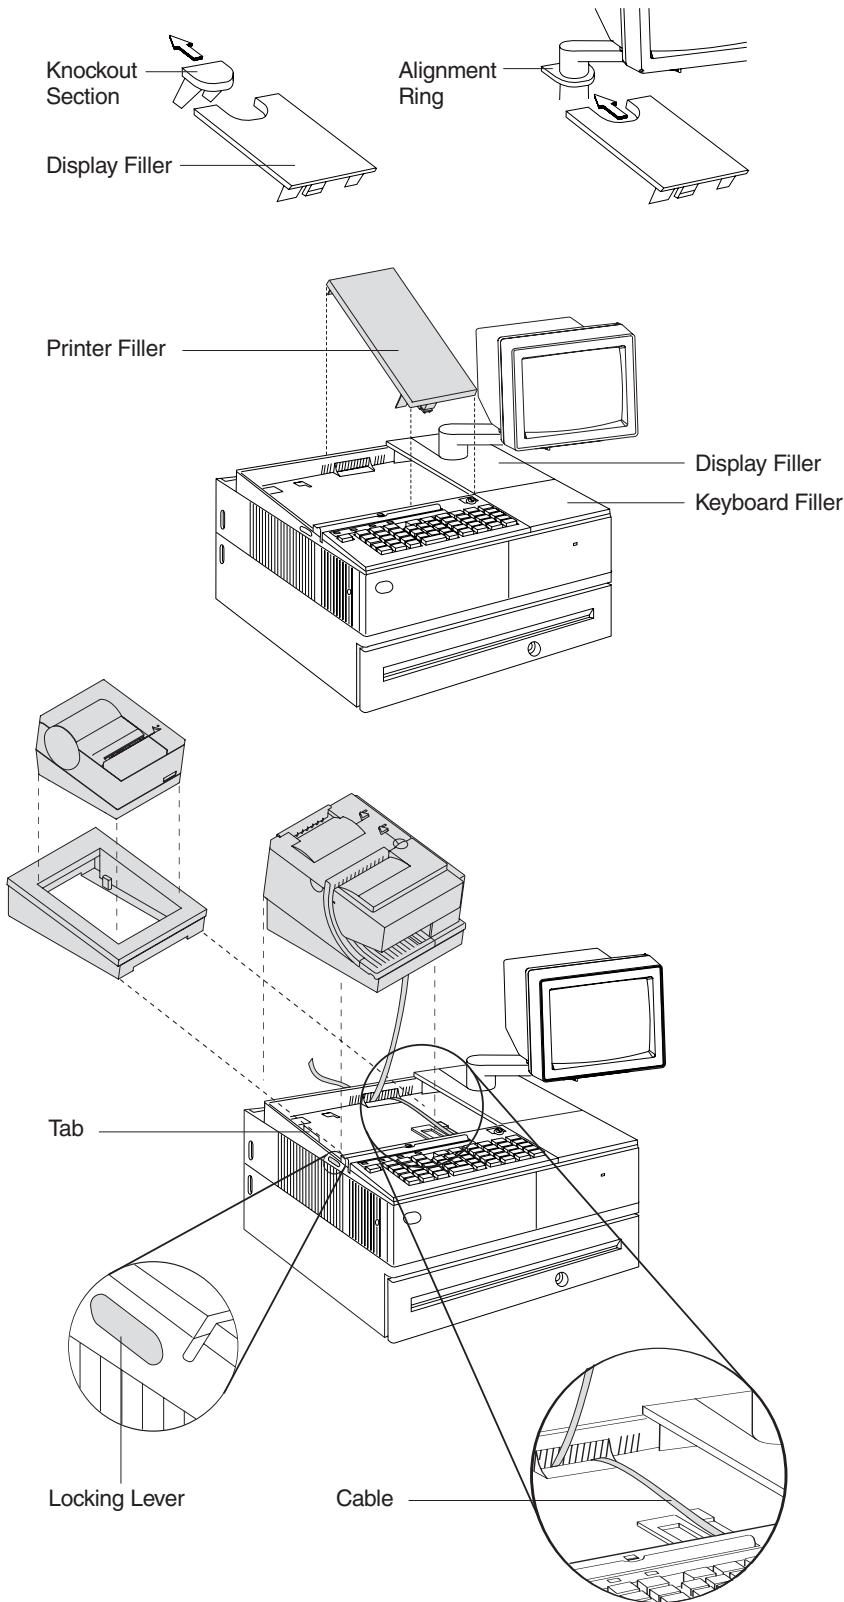

Figure 12. Installing the Fillers for RS-232/RS-485 Systems
- c. Route the keyboard cable to the side of the tab as shown in Figure 12 on page 20.
- c. Align the display filler with the alignment ring and slide the filler onto the ring. Press the display filler into place. See Figure 12 on page 20.
3. If you do not have a video display, place the display filler on the system unit. **Do not remove** the knockout section. See Figure 12 on page 20.
4. If you have a short keyboard, place the keyboard filler beside the keyboard. See Figure 12 on page 20.
5. Place the printer filler beside the display filler. **Make sure you route the printer cable to the side, as shown in Figure 12 on page 20.**